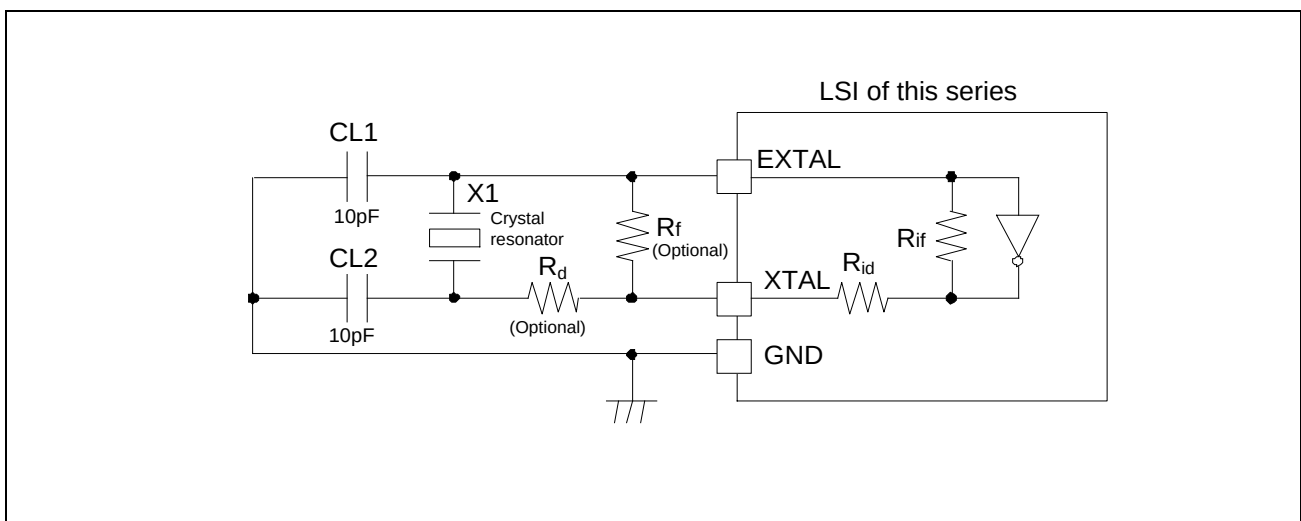

Figure 3.2 Example of crystal resonator connection
**Figure 3.2** shows an example of a crystal resonator connection.
Also, the CL1 and CL2 constants shown in **Figure 3.2** are reference values, and the optimum values differ depending on the oscillator characteristics.